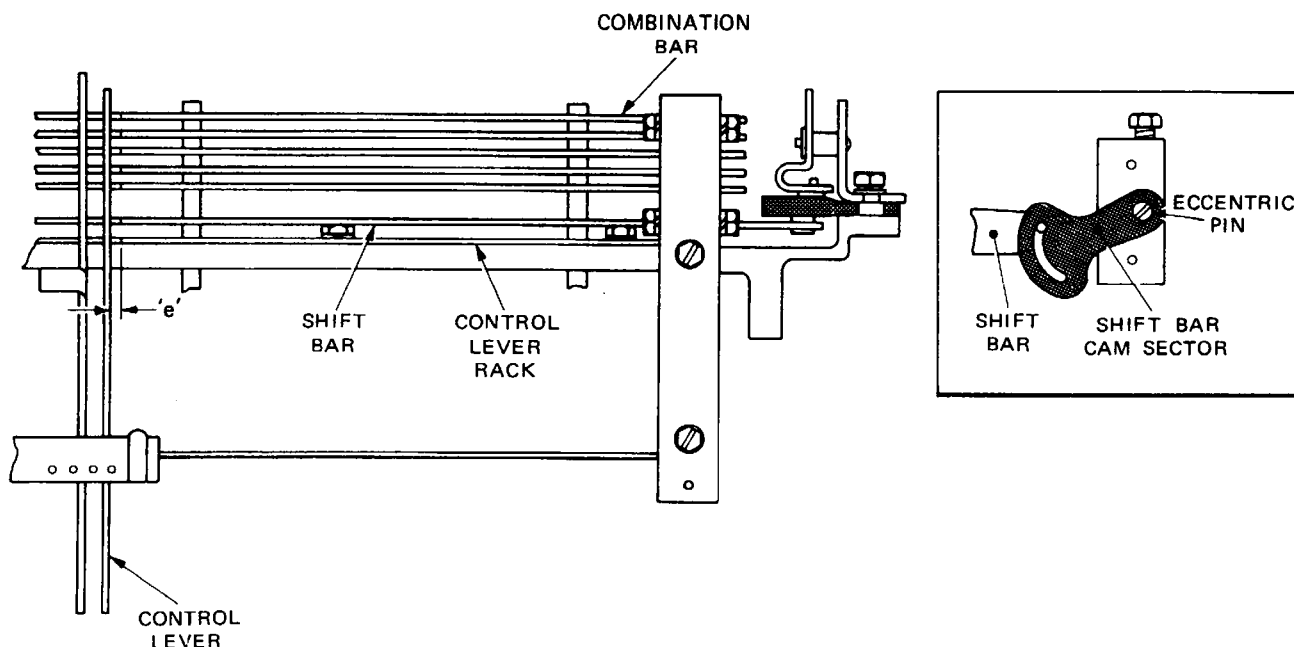

Fig. 4.4 CODE CONTROL UNIT (UNDERSIDE VIEW)
- 5.1 Set up the space combination (SSMSS) on the combination bars, Fig.4.4, so that the control lever drops into its slot in the control lever rack. Position the shift bar cam sector so that the pin on the shift bar is at the end of the slot in the sector, as shown in the inset.